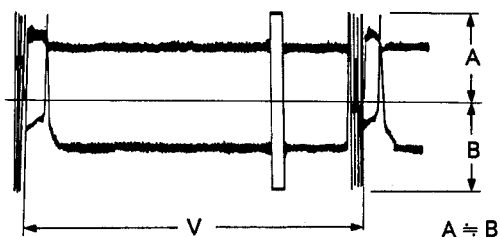

Fig. 8-10.
Specified Value	See Fig. 8-10. A level $\approx$ B level
- 1) Rotate RV009 to adjust to that the limiter works vertically symmetrically (See Fig. 8-10).